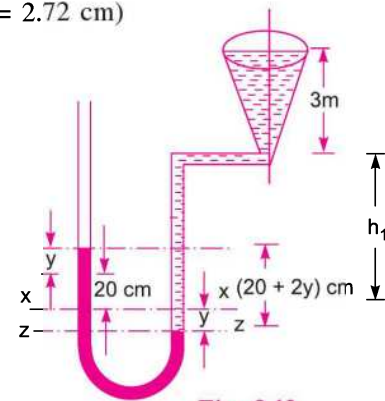

Fig. 2.13
**Vessel is full of water.** When vessel is full of water, the pressure in the right limb will increase and mercury level in the right limb will go down. Let the distance through which mercury goes down in the right limb be,  $y \text{ cm}$  as shown in Fig. 2.13. The mercury will rise in the left by a distance of  $y \text{ cm}$ . Now the datum line is Z-Z. Equating the pressure above the datum line Z-Z.